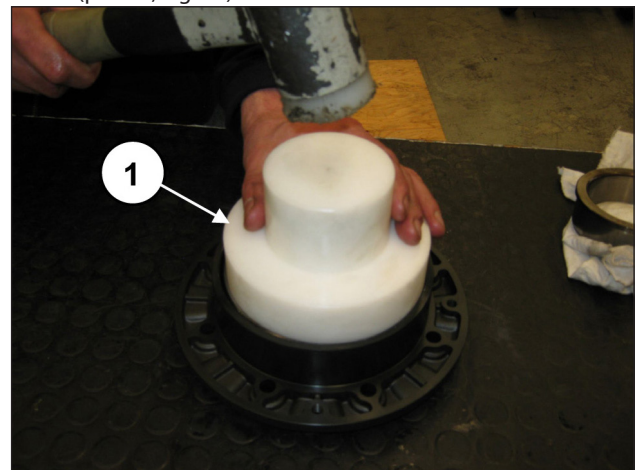
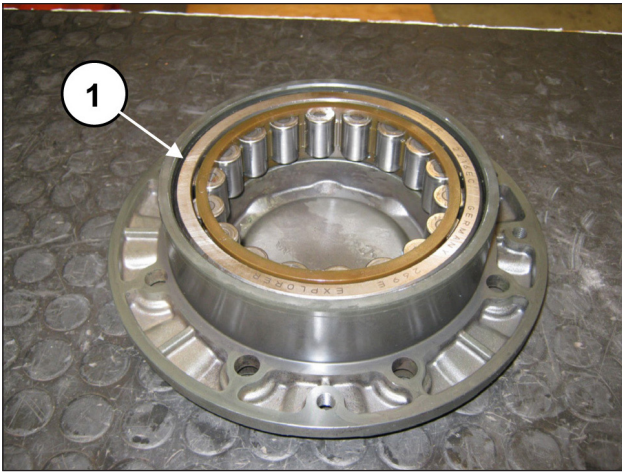

Fig. 55
Fig. 56
Repeat this operation on the bearing cover, pre-assembling the external bend shaft bearing ring with the help of the tool code 27605000 (pos. ①, Fig. 55) inserting fully down to end stroke (pos. ①, Fig. 56).